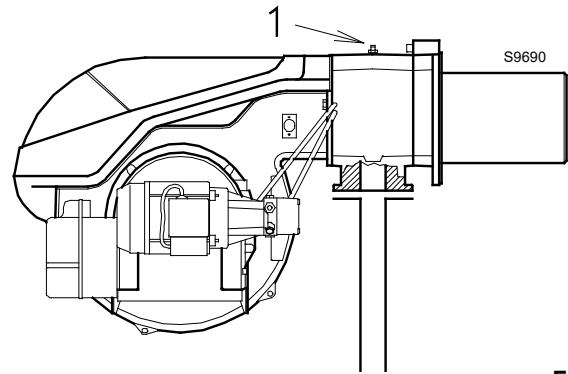

Fig. 29
Gas pressure measured at test point 1)(Fig. 29 on page 27), with:
- subtract the combustion chamber pressure from the gas pressure measured at test point 1)(Fig. 29 on page 27).
Gas pressure at test point 1)(Fig. 29) = 11.2 mbar
To calculate the required gas pressure at test point 1)(Fig. 29), with the output fixed at that required for the burner in the 2nd stage:
- Read, on the right (column 1), the pressure at the test point 1)(Fig. 29).
pressure required at test point 1)(Fig. 29).